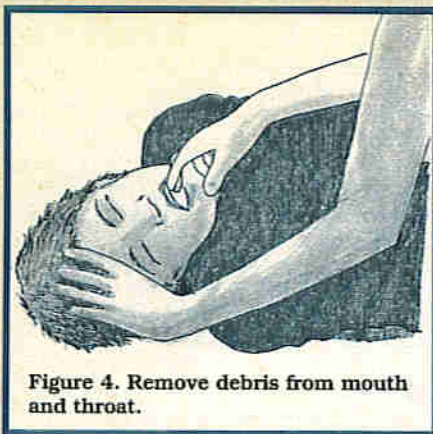

Figure 4. Remove debris from mouth and throat.
- Remove any obvious obstructions over the face or constrictions around the neck. Remove any debris from the mouth and throat as shown in Figure 4. Extend casualty's head and neck: Support nape of casualty's neck. Press forehead so that it is tilted backwards. Push chin upwards using hand from nape of neck. These moves lift the tongue forward clear of the airway.